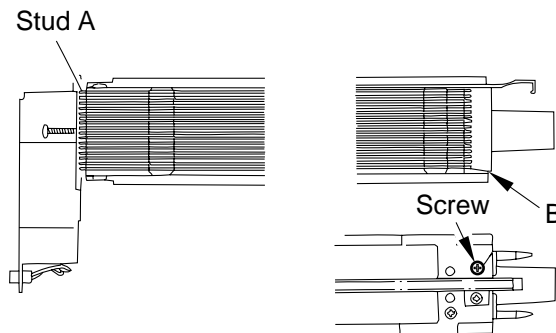

Figure 11-219
- 6) Hook the loop on the stud A shown in Figure 11-219.